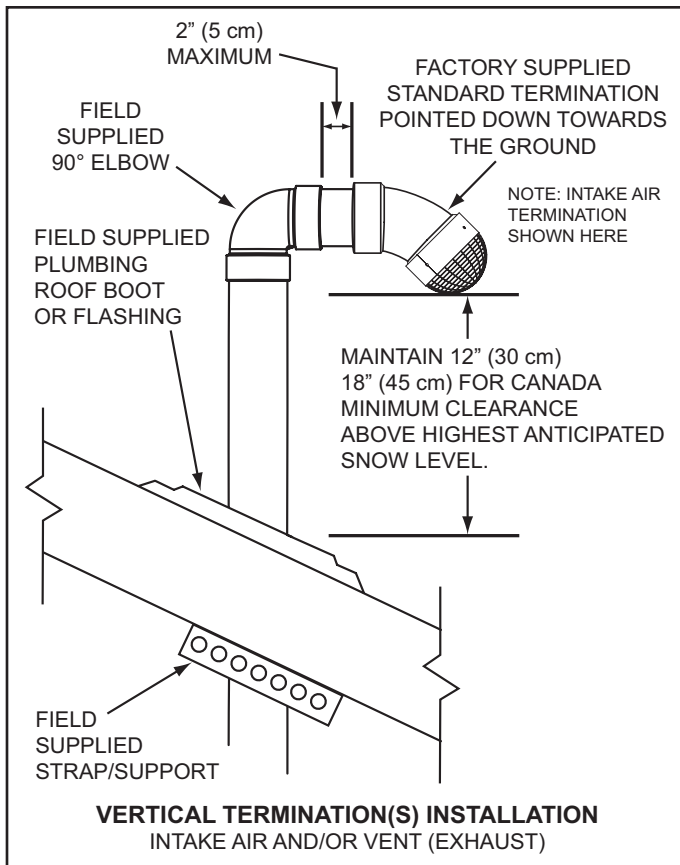
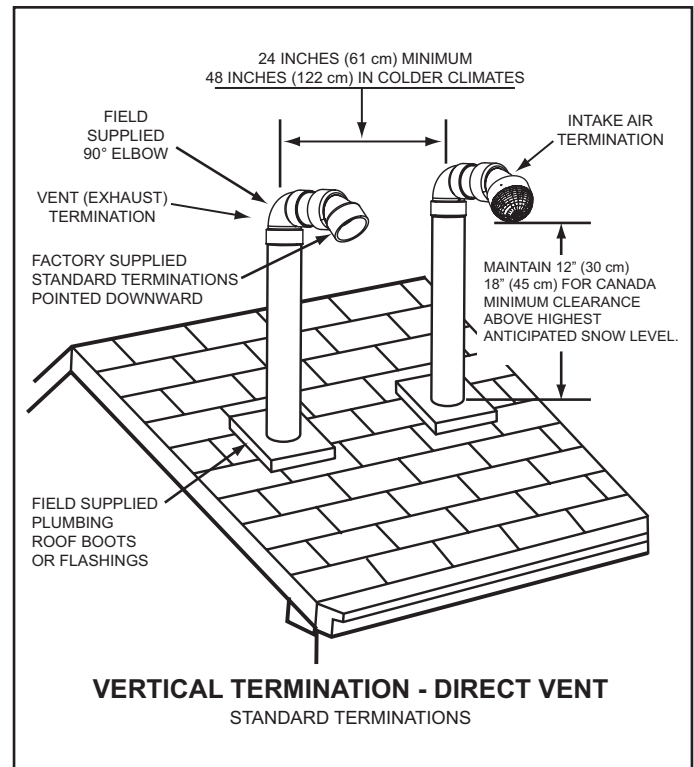
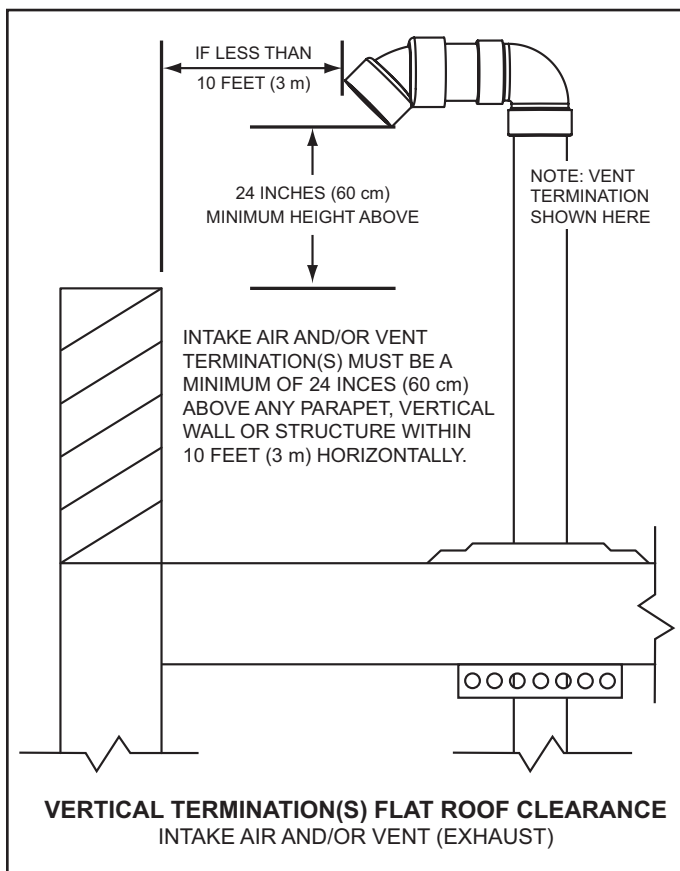

Figure 23
Figure 25
Figure 24
2. If installing only the vent (exhaust) piping in a Power Vent configuration vertically through the roof; ensure that all exterior vertical clearance requirements shown in Figure 23 and Figure 24 on page 28 are being maintained. These clearances and those cited by local and national codes must be maintained.
NOTE: On flat roof installations the vent termination must be a minimum of 24 inches (60 cm) above any parapet, vertical wall or structure within 10 feet (3 m) horizontally. See Figure 24 on page 28.
3. If installing both intake air and vent piping in a Direct Vent configuration vertically through the roof; ensure that all exterior vertical clearance requirements shown in Figure 23 and Figure 24 on page 28 are being maintained. These clearances and those cited by local and national codes must be maintained.
NOTE: On flat roof installations the intake air and the vent terminations must be a minimum of 24 inches (60 cm) above any parapet, vertical wall or structure within 10 feet (3 m) horizontally. See Figure 24 on page 28.
The vent termination must be oriented facing downward as shown in Figure 23 and Figure 24 on page 28.
The bottom edge of the vent termination must be a minimum of 12 inches (30 cm), 18 inches (45 cm) in Canada, above the average or expected snow level as shown in Figure 23 on page 28.
The intake air and vent pipes must penetrate the same side of the roof as shown in Figure 25 on page 28.
The intake air and vent terminations must be oriented facing downward and in the same direction as shown in Figure 25 on page 28.
The intake air and vent terminations must have a minimum separation of 24" (61 cm) measured on center line as shown in Figure 25 on page 28. In colder climates this separation should be increased to at least 48 inches (122 cm).
The bottom edge of the intake air and vent terminations must be a minimum of 12 inches (30 cm), 18 inches (45 cm) in Canada, above the average or expected snow level as shown in Figure 23 and Figure 25 on page 28.
The distance between the closest vent and intake air terminations must be a minimum of 24 inches (61 cm) as shown in Figure 25 on page 28. In colder climates this separation should be increased to at least 48 inches (122 cm).
8. Suspend the pipe(s) through center of hole using field supplied metal strapping or equivalent support materials as shown in Figure 23 on page 28.
9. Slide a roof boot or equivalent flashing over the pipe and secure roof boot or equivalent flashing to roof and seal around the flashing as shown in Figure 23, Figure 24 and Figure 25 on page 28.
10. Install the factory supplied intake air and/or vent termination(s) using field supplied pipe and one field supplied 90° elbow as shown in Figure 23 on page 28. The short section of pipe that connects between the field supplied 90° elbow and the factory supplied termination must not be excessive in length. The exposed portion of this pipe shall be no more than 2 inches (5 cm), see Figure 23 on page 28.